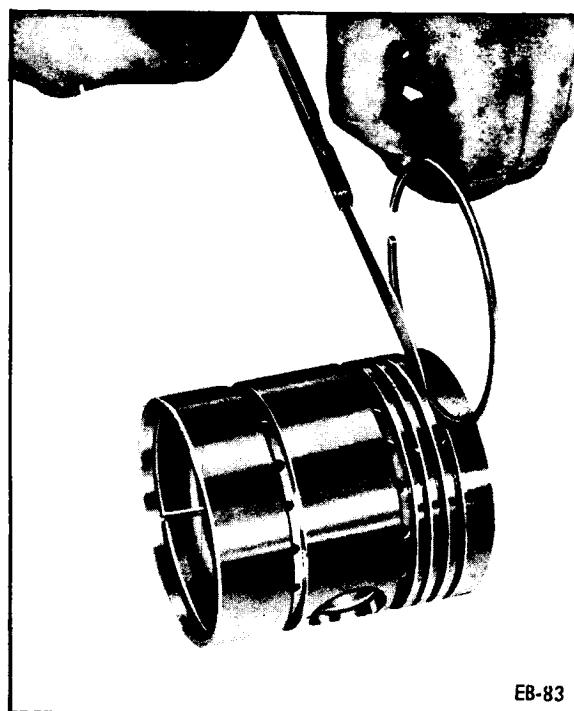

Fig. 4
- (a) Check the piston ring grooves for wear using a new piston ring and feeler gauges (Fig. 4).